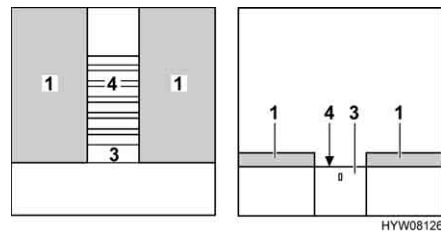

Fig. 68 During conversion
- Pull out slatted frame (Fig. 68,4) completely. To do this, pull on the extension (Fig. 68,3).